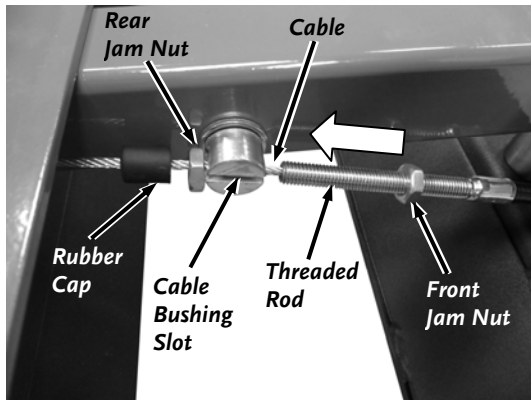

Figure 23
27. Insert the Height Adjust Cable under the front Crossmembers a position it near the Cable Bushing (**Figure 23**).